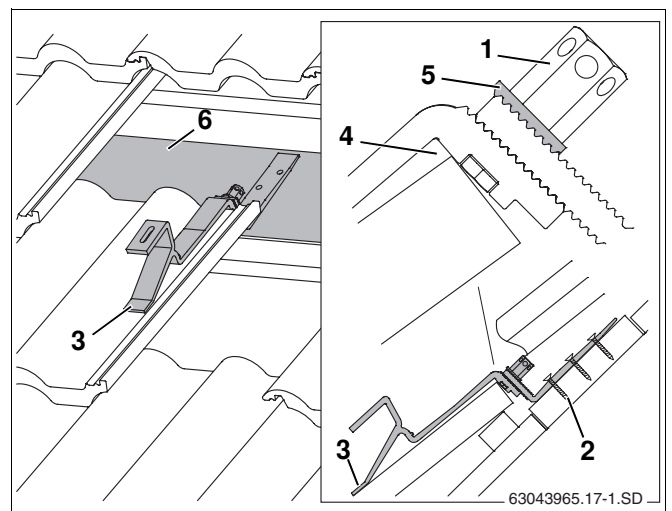

Fig. 15 Roof hook fitted (some tiles have been removed for a better view)
- Lay front brace onto the tile so that when subjected to a load it lies in a tile trough (Fig. 15, **Item 3**).
The roof hook must have some clearance along the upper edge of the tile (Fig. 15, **Item 4**). Adjust the top of the tile if necessary.
- Push the lower part of the roof hook down until it lies on the joist or on the boards (Fig. 15, **Item 6**).
The serrated washer (Fig. 15, **Item 5**) must grip the teeth on the lower part of the roof hook.
- Tighten the long hexagon nut (Fig. 15, **Item 1**). To do this, insert the size 5 Allen key into the hole in the hexagon nut and turn.
- Using suitable screws, fasten the lower part of the roof hook into the first (Fig. 15, **Item 2**) and second holes (at least) of the joist.